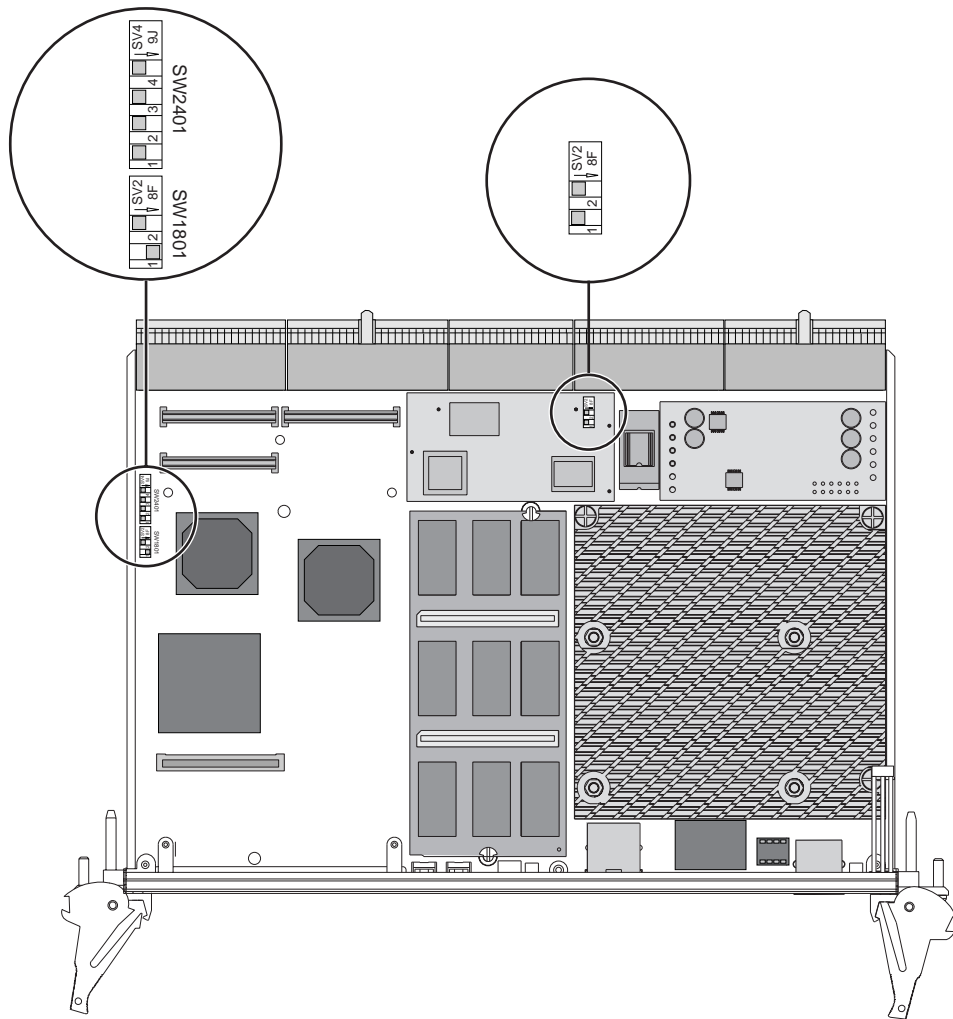

FIGURE A-17 SCSI Switch Selections and SMC on the CP2040
The positions of these switches determines the flash device selection and SCSI termination. If a switch is moved towards the direction of an arrow, it means it is closed (ON). If a switch is moved in the opposite direction of the arrow, it is open (OFF). FIGURE A-17 shows switches and the switch setting legend.
See FIGURE A-17 for the location of user flash, SCSI, and SMC FPGA switches.